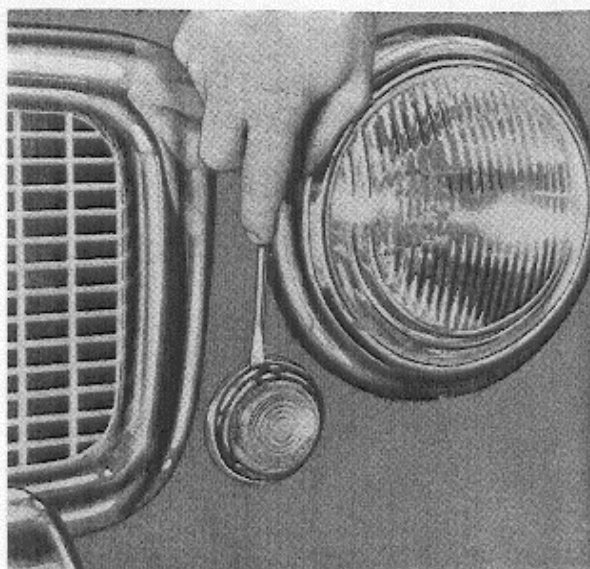

Fig. 24.
1. Loosen the rim with a screwdriver, see fig. 24.